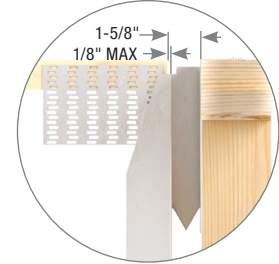

Figure 1
- The end of the joist should measure no more than 1-5/8" from the face of the supporting wall. See Figure 1.
- The joist should bear fully on the FWHL seat with a gap no greater than 1/8" between the end of the supported member and the hanger. See Figure 1.